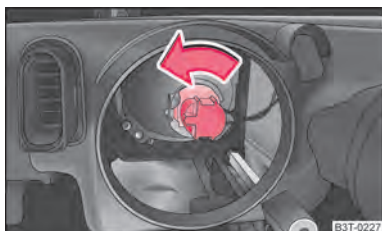

Fig. 205 Removing the light bulb for the low beam light
- Turn the connector with the light bulb up to the stop towards the left and remove ⇒ fig. 205.